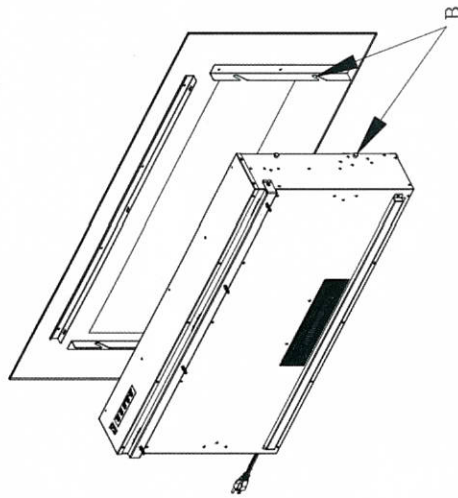

Fig.5
Installation (see Fig1 ~ Fig 5)
- Place the front glass surround over the front of the fire aligning the slots in the bracket at each side of the glass panel with the lugs on the sides of the fire; See Fig.5